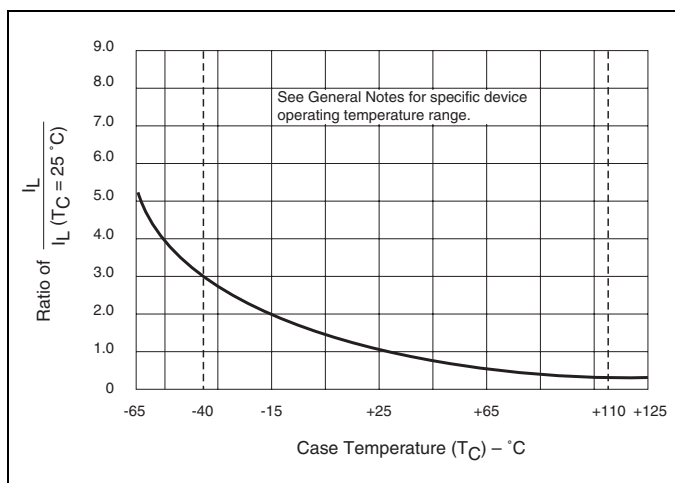

Figure E5.18 Normalized DC Latching Current versus Case Temperature
- Latching current can be higher than 20 mA for higher I_{GT} types. Also, latching current can be much higher at -40°C . See Figure E5.18.